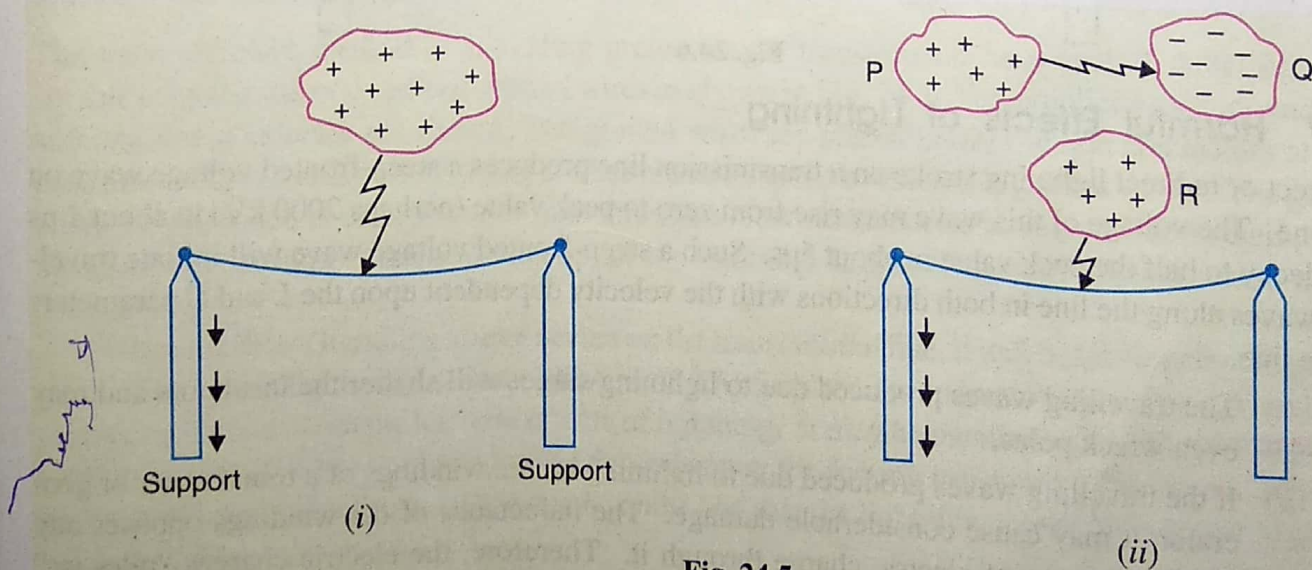

Fig. 24.5
- (i) In stroke A, the lightning discharge is from the cloud to the subject equipment *i.e.* an overhead line in this case as shown in Fig. 24.5 (i). The cloud will induce a charge of opposite
- (ii) In stroke *B*, the lightning discharge occurs on the overhead line as a result of stroke *A* between the clouds as shown in Fig. 24.5 (ii). There are three clouds *P*, *Q* and *R* having positive, negative and positive charges respectively. The charge on the cloud *Q* is bound by the cloud *R*. If the cloud *P* shifts too near the cloud *Q*, then lightning discharge will occur between them and charges on both these clouds disappear quickly. The result is that charge on cloud *R* suddenly becomes free and it then discharges rapidly to earth, ignoring tall objects.